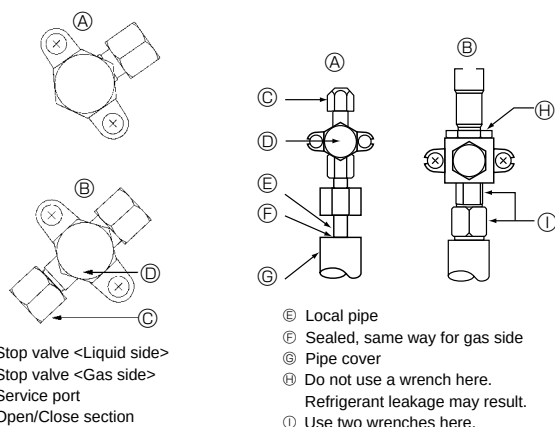

Fig. 4-5
4.4. Refrigerant pipe airtight testing method (Fig.4-5)
- Make sure the stop valves (A) (B) are closed and do not open them.
- Add pressure to the refrigerant lines through the service port (C) of the liquid stop valve (A).
- If the pressure decreases in steps (2) or (3), there is a gas leak. Look for the source of the gas leak.